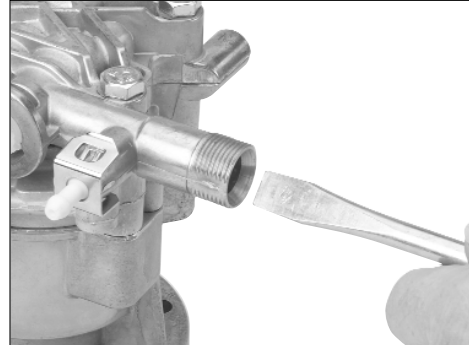

Figure 27
1. Remove nozzle insert with a screwdriver. (figure 27)